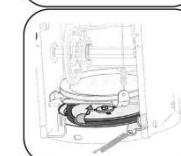

Figure 15
5. Remove the belt from around the auger pulley, and slip the belt between the support bracket and the auger pulley. Reassemble auger belt by following instructions in reverse order. See Figure 15.